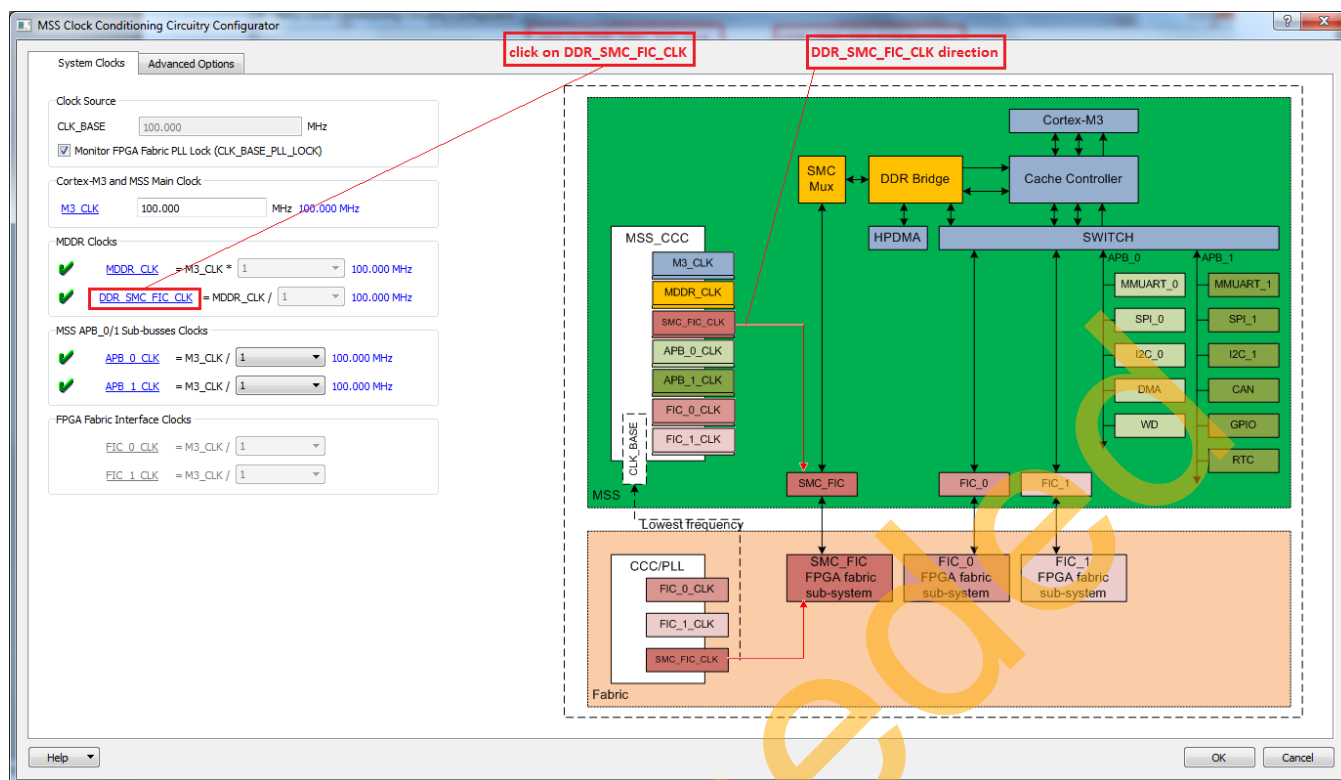

Figure 11. MSS Clock Configurator
4. Double-click the **MSS_CCC** block and configure as shown in Figure 11.